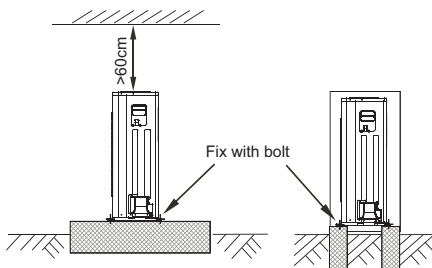

Fig.6-6
- Make concrete foundation according to the specifications of the outdoor units.(Refer to Fig.6-6)
- Fasten the feet of this unit with bolts firmly to prevent it from collapsing in case of earthquake or strong wind.(Refer to Fig.6-6)